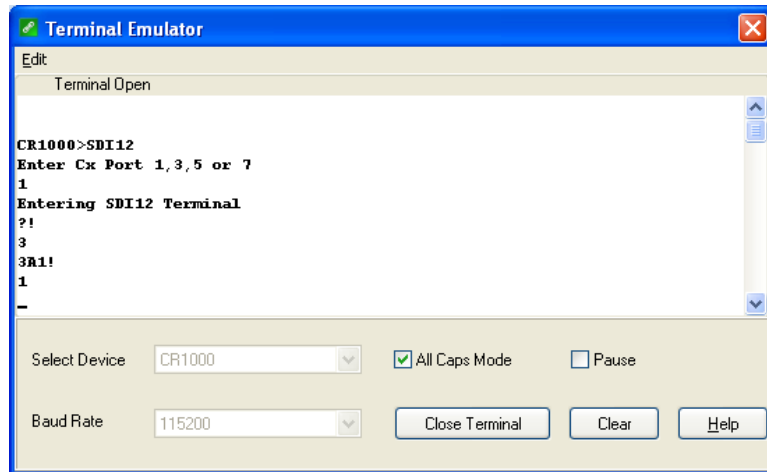

FIGURE D-2. CR1000 example of using the SDI-12 transparent mode to change the SDI-12 address from 3 to 1. Sensor is connected to control port 1.
- To change the SDI-12 address, key in **aAb!** <enter>, where *a* is the current address from the above step and *b* is the new address (see FIGURE D-2). The CS451/CS456 will change its address and the datalogger will respond with the new address. To exit SDI-12 transparent mode, select the **Close Terminal** button.